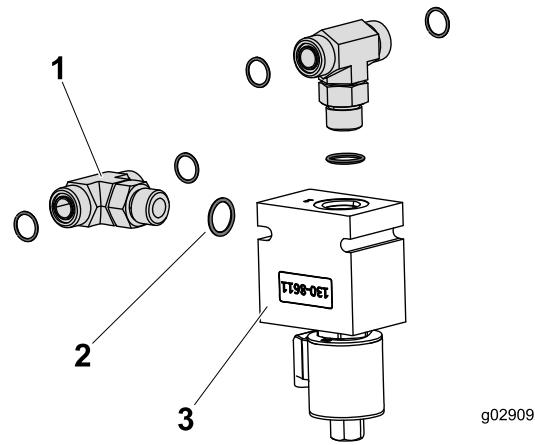

Figure 15
2. Install the 2 tee fittings and O-rings onto the manifold valve as shown in Figure 15.